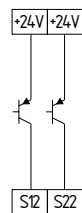

Fig. 12
**Dual-channel control of a safety-related electronic (microprocessor-based) safety guard with p-type transistor outputs e.g. AOPDs to IEC 61496 (see Fig. 12)**